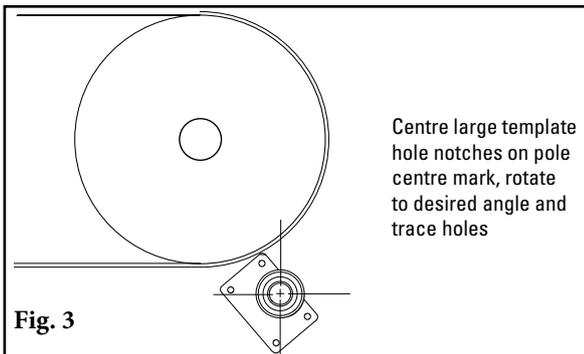

Fig. 3
3. **Mark and cut the mounting base holes.** Using the mounting bracket, position the large pole hole of the bracket on the chute with the hole notches aligned with the layout lines. Trace the pole hole and mounting holes (Fig. 3). Mounting base must be mounted with radius edge towards cutout in chute to allow cartridge sliding.